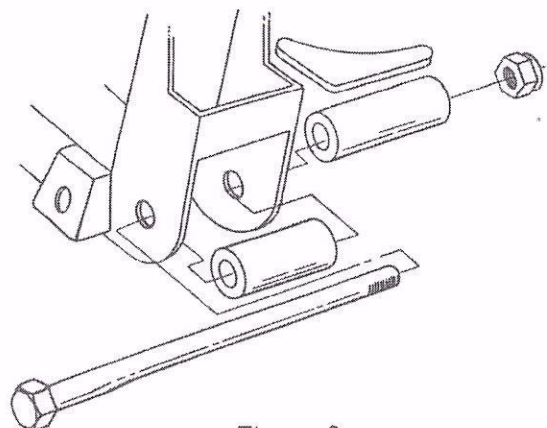

Figure 3
5. If you purchased a complete I.F.S. Package, it was supplied with Full Lower A-Arms. Begin by installing the Spacers onto the crossmember. The holes where the lower control arms attach to the Crossmember must be enlarged to 5/8". Mount the Crossmember Spacers and the Rear Spacers which were supplied with the Lower Control Arms onto the Crossmember as shown in Figure 3 using the supplied Inner Bushing Bolts, Nuts and a temporary spacer under the Nuts. DO NOT use the A-Arms for this operation as the welding heat will melt the rubber bushings. Tighten the Bolts and Nuts tight. Weld the Rear Spacers to the Crossmember all around. Weld the Crossmember Spacers as far as possible inside the crossmember on both ends. Position the Gussets horizontally, not vertically, against the Rear Spacers and the back of the Crossmember. Weld Gussets to Spacers and Crossmember. When it cools, remove the bolt.